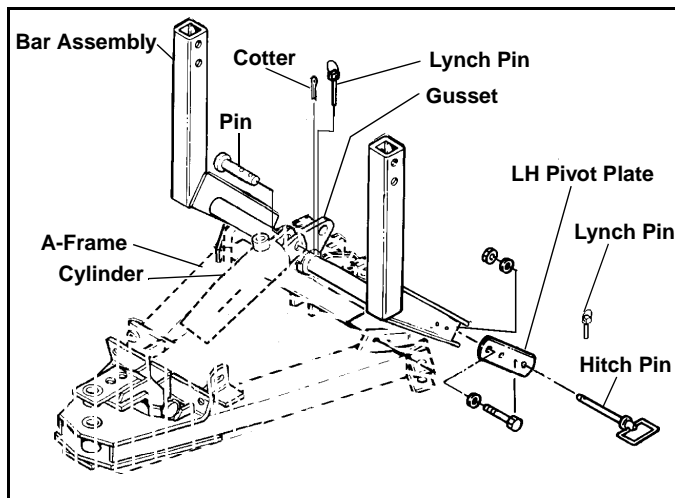

Figure 3
6. Attach the upper end of the Lift Cylinder to the 3/4" hole in the Gusset on the cross tube of the Lower Bar Assembly, using the Clevis Pin, Cotter Pin and Lynch Pin previously removed in Step 5.(See Figure 3)